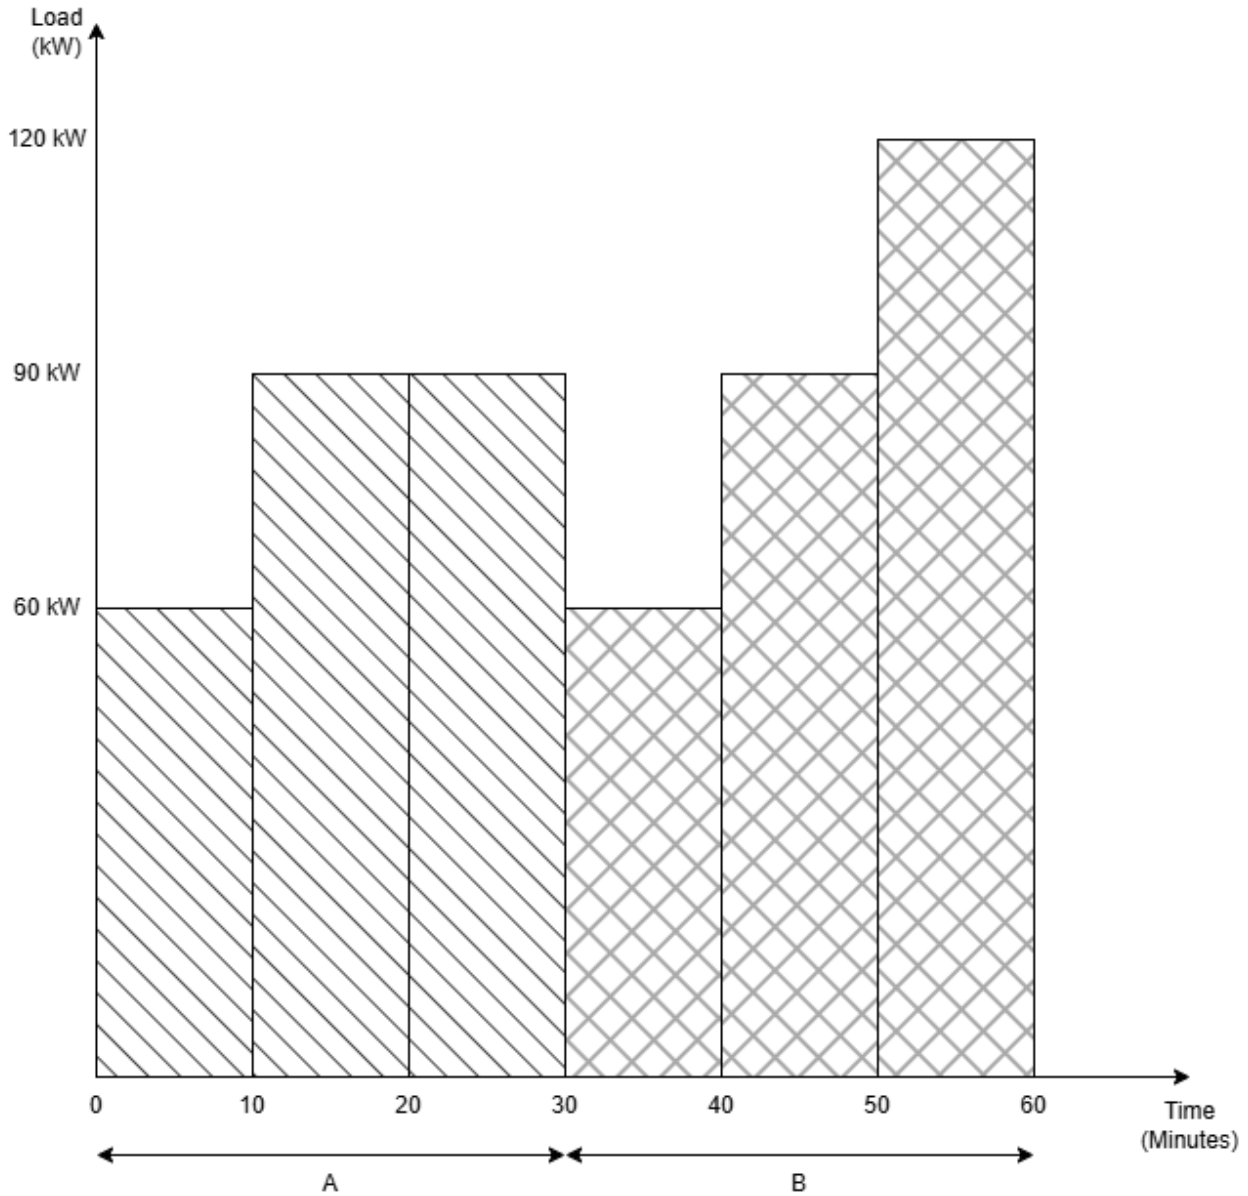

Figure 5.1
5. The 3-phase load profile of a factory is given in Figure 5.1. The load profile replicates every week and has the same pattern. A 60-minute snapshot of this repetitive load profile is shown in the figure below.
- From the profile Figure 5.1, calculate the total kWh for the 60-minute period. (6 marks)
- Given that the tariff is € 0.24 per kVAh unit, calculate the daily cost, given that the overall Power factor is 0.9 and the profile in Figure 5.1 is repeated for 8 hours. (6 marks)